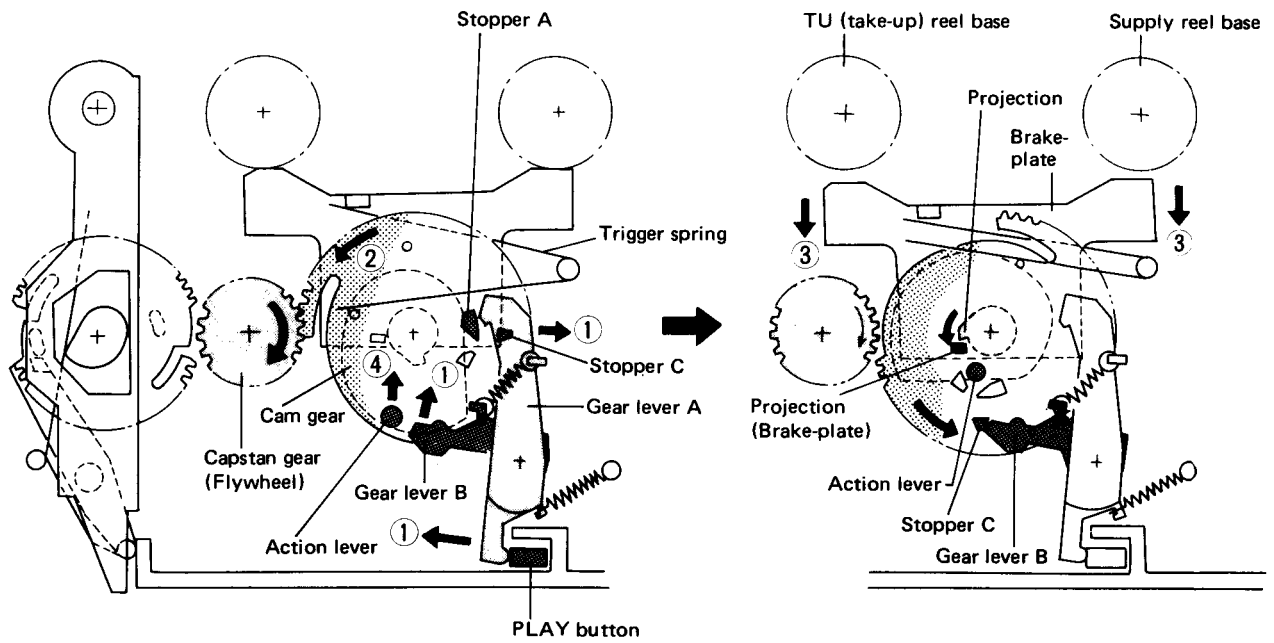
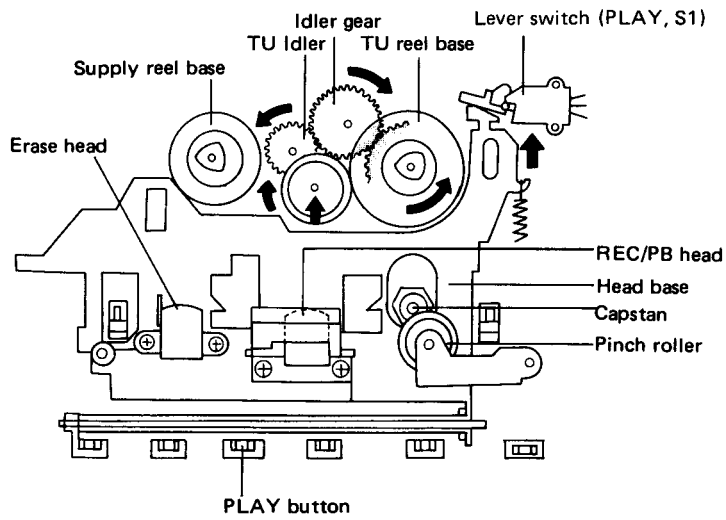

Fig. 13-2 STOP → PLAY operation
Fig. 13-3 PLAY operation
### PLAY Operating (Fig. 13-2, 13-3)
1. When the PLAY button is pressed down, the shape of the button forces gear lever A in the ① direction. Also, at the same time, gear lever B travels in the ① direction, and gear lever A and cam gear stopper A are disengaged.
2. The cam gear is forced in the direction ② by the trigger spring. Consequently, it starts rotating in the direction ② (CCW) and meshes with the capstan gear (flywheel).
3. As the capstan gear and cam gear are now engaged, the force transmitted by the motor and flywheel rotate the cam gear further, until stopper C makes contact with gear lever B. It stops in that position. At this point, the capstan gear and cam gear are no longer meshed. (See right side of Fig. 13-2).
4. Now, the projection on the cam gear boss is forcing the brake-plate down in the direction ③, and braking force is released from the reel base.
5. Also, the cam shape of the cam gear is moving the action lever in the ④ direction.
6. The head base is lifted by the action of this action lever, placing it in the PLAY position and throwing the PLAY switch to the PLAY side. (See Fig. 13-3). This action also presses down on the pinch roller pressure spring causing pressure contact between the pinch roller and capstan, and starting tape travel.